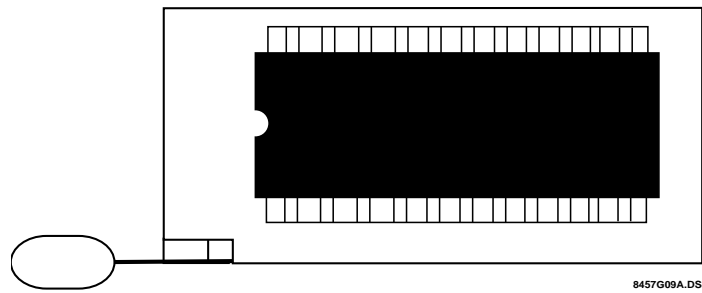

Figure 3: Placement of EEPROM in Socket
1. If your programmer is not equipped with a rechargeable battery, you must connect the power transformer provided (see Figure 3).
5. Place a previously programmed (master) 2816 chip in the large socket on the programmer, making sure that the notch on the chip is towards the lever (see Figure 3).